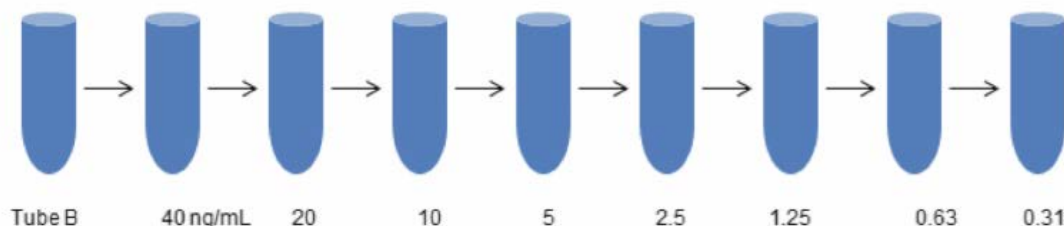

Figure 3: Preparation of Standard
6. Use the 40 ng/mL tube as the starting point for 2-fold serial dilutions. Add 500 µL of 1x Diluent to each of the tubes labeled 20, 10, 5, 2.5, 1.25, 0.63 and 0.31 ng/mL. Transfer 500 µL from the 40 ng/mL tube to the 20 ng/mL tube. Mix tube by inverting ~10 times. In the same manner, transfer 500 µL from the 20 ng/mL tube to the 10 ng/mL tube and so on down to the 0.31 ng/mL tube (see Figure 3 below). *Store tubes at room temperature and use on the same day as preparation.*